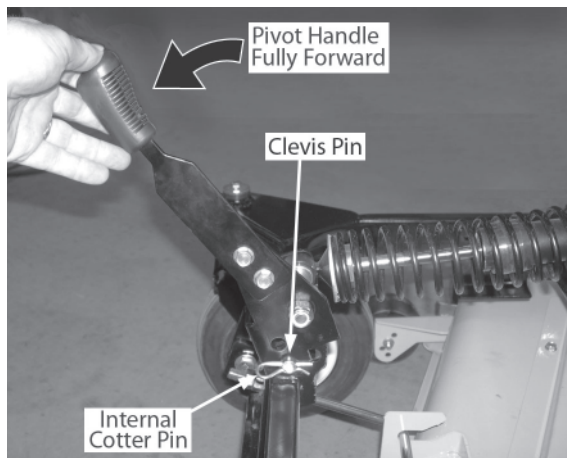

Figure 7-10
- Grasp the shock absorber pivot handle and pull upward and forward to pivot the handle fully forward. Refer to Figure 7-10.
- Remove the internal cotter pin securing the shock absorber handle pivot clevis pin. Hold the shock absorber pivot handle and withdraw the clevis pin. Refer to Figure 7-10.
- Install the shock absorber pivot handle on the outside of the mounting brackets on the deck frame. Align the forward holes of the pivot handle and mounting brackets, insert the long clevis pin and secure with the internal cotter pin removed when removing the deck frame. Refer to Figure 7-10.